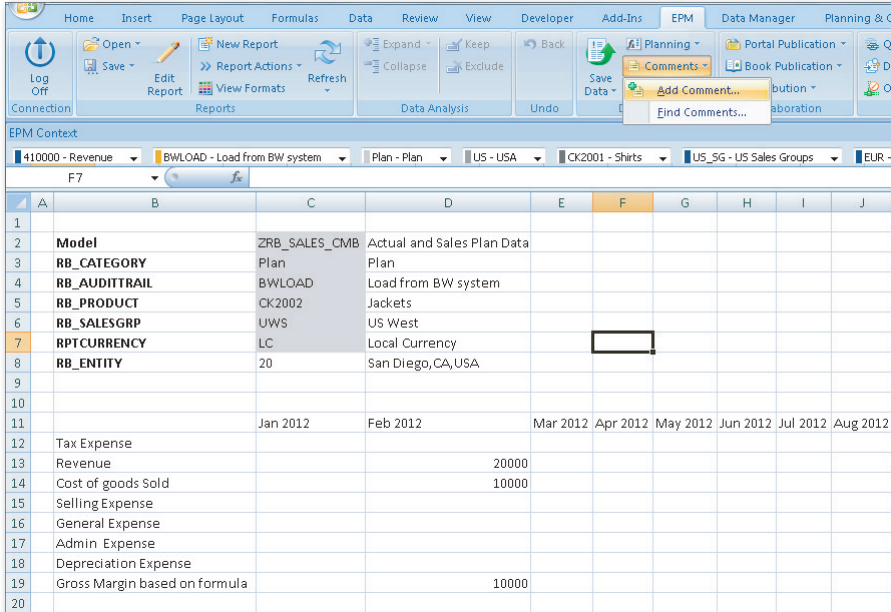

Figure 7.9 Adding Comments—Part B
2. To add a comment manually, open a report or input form from the EPM add-in for Excel interface, and connect to the **ZRB_SALES_CMB** model. Click on the **ADD COMMENT** menu option under the **COMMENTS** command (Figure 7.9).